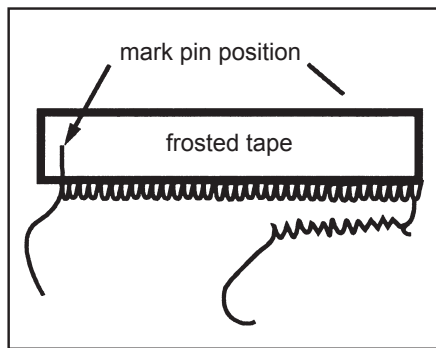

Figure 8
- Draw a line using a fabric marking pen (Figure 8).